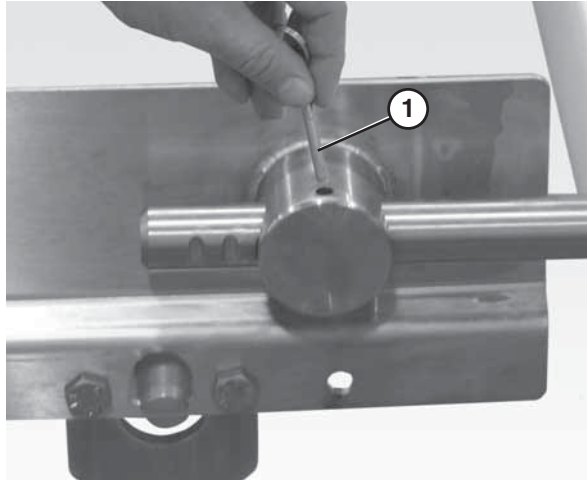

Figure 54
2. Remove the pull pin (**Figure 54, item 1**) on the tension end of the conveyor to release belt tension.